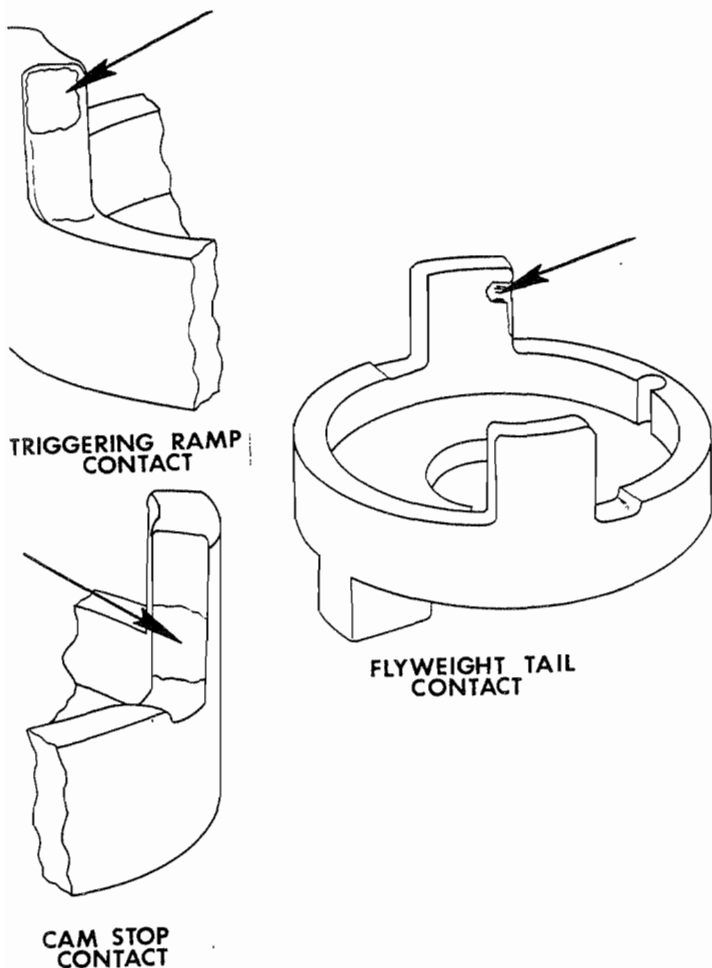

Figure 710. Points of Coupling Body Wear
- (3) Inspect ears of coupling body (46) for grooves worn by tail of flyweight and wear at triggering ramp and cam stop contact areas. (See Figure 710.) If either ear shows a perceptible groove or a ridge can be felt when fingernail is drawn across surface, reject body (46).
- (4) Inspect drive lugs of body, if incorporated. If wear is noted, measure difference between worn and unworn areas on drive lug surface. If difference is in excess of 0.015 in., reject body (38).